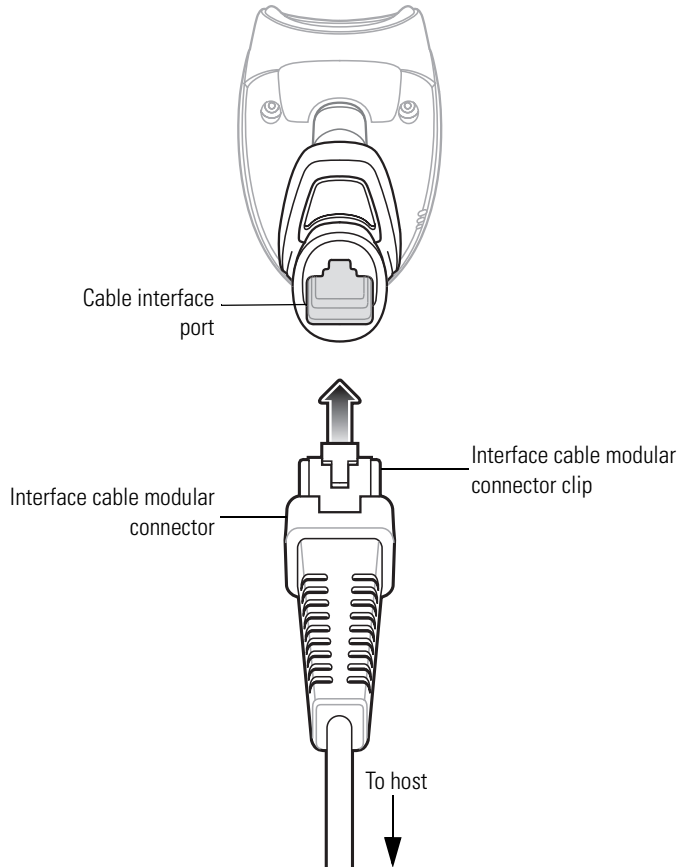

Figure 1-2. Installing the Cable
1. Insert the interface cable's modular connector clip into the cable interface port on the bottom of the scanner handle. (See Figure 1-2.)